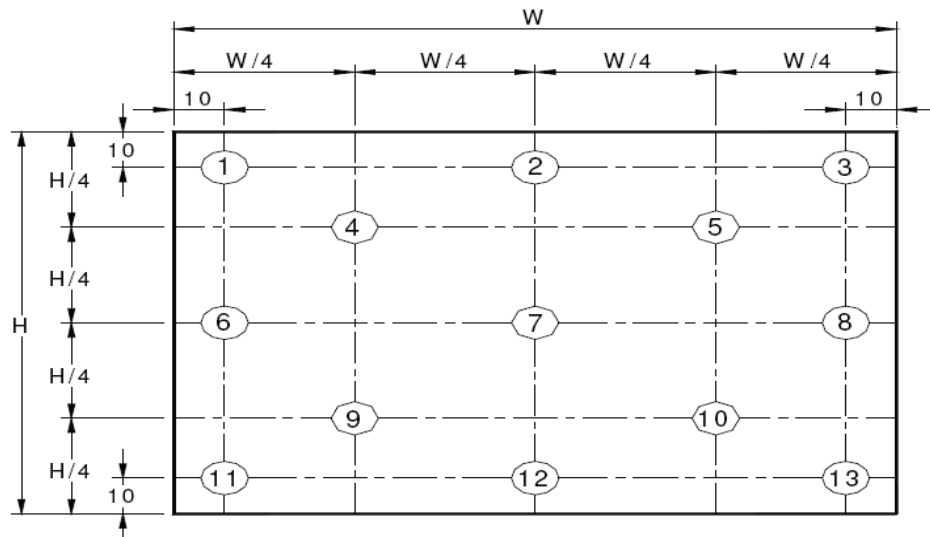

Figure 9. Uniformity Measurement Locations (13 points)
<p>Notes :</p> <ol style="list-style-type: none"> <li>Viewing angle is the angle at which the contrast ratio is greater than 10. The viewing angles are determined for the horizontal or 3, 9 o'clock direction and the vertical or 6, 12 o'clock direction with respect to the optical axis which is normal to the LCD surface (see Figure 7).</li> <li>Contrast measurements shall be made at viewing angle of <math>\Theta = 0</math> and at the center of the LCD surface. Luminance shall be measured with all pixels in the view field set first to white, then to the dark (black) state . (see Figure 7) Luminance Contrast Ratio (CR) is defined mathematically. <math display="block">CR = \frac{\text{Luminance when displaying a white raster}}{\text{Luminance when displaying a black raster}}</math> </li> <li>Center Luminance of white is defined as luminance values of 5 point average across the LCD surface. Luminance shall be measured with all pixels in the view field set first to white. This measurement shall be taken at the locations shown in Figure 8 for a total of the measurements per display.</li> <li>The White luminance uniformity on LCD surface is then expressed as : <math>\Delta Y = \text{Minimum Luminance of 5(or 13) points} / \text{Maximum Luminance of 5(or 13) points.}</math>(see Figure 8 and Figure 9).</li> <li>The color chromaticity coordinates specified in Table 5 shall be calculated from the spectral data measured with all pixels first in red, green, blue and white. Measurements shall be made at the center of the panel.</li> <li>The electro-optical response time measurements shall be made as Figure 10 by switching the “data” input signal ON and OFF. The times needed for the luminance to change from 10% to 90% is <math>T_r</math>, and 90% to 10% is <math>T_f</math>.</li> <li>Cross-Talk of one area of the LCD surface by another shall be measured by comparing the luminance (YA) of a 25mm diameter area, with all display pixels set to a gray level, to the luminance (YB) of that same area when any adjacent area is driven dark. (See Figure 11).</li> </ol>
The White luminance uniformity on LCD surface is then expressed as :  $\Delta Y5$  = Minimum Luminance of five points / Maximum Luminance of five points (see Figure 8) ,  $\Delta Y13$  = Minimum Luminance of 13 points /Maximum Luminance of 13 points (see Figure 9).